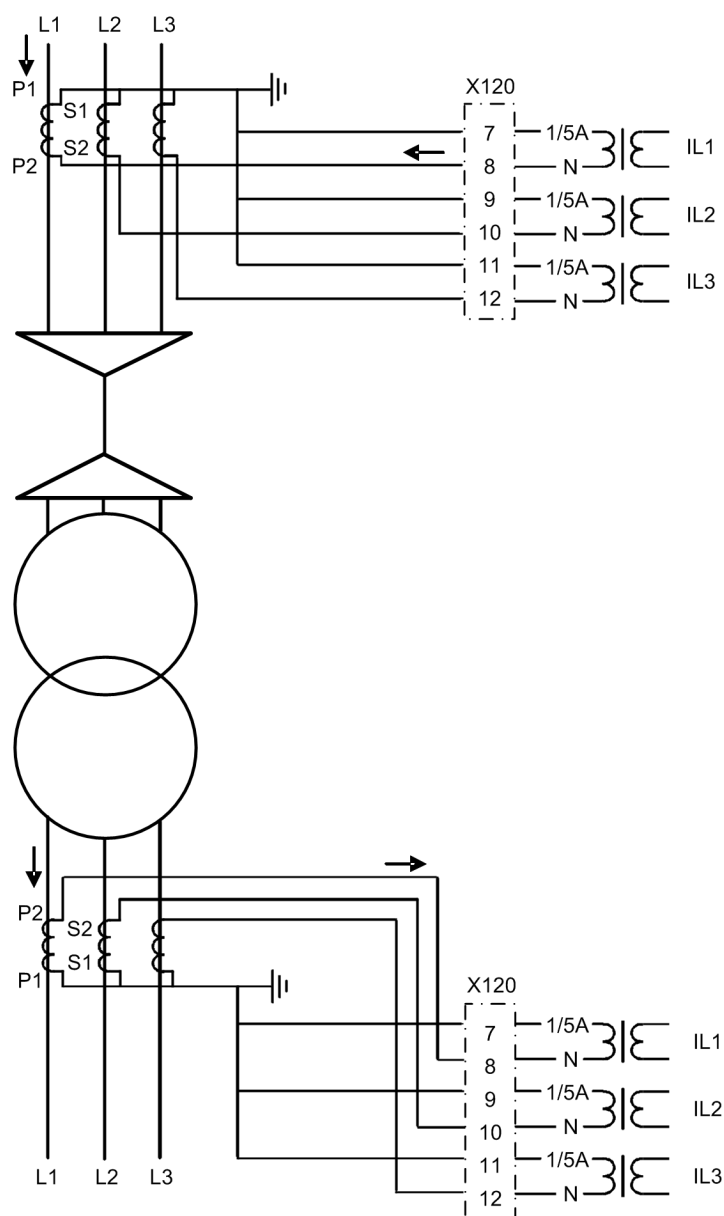
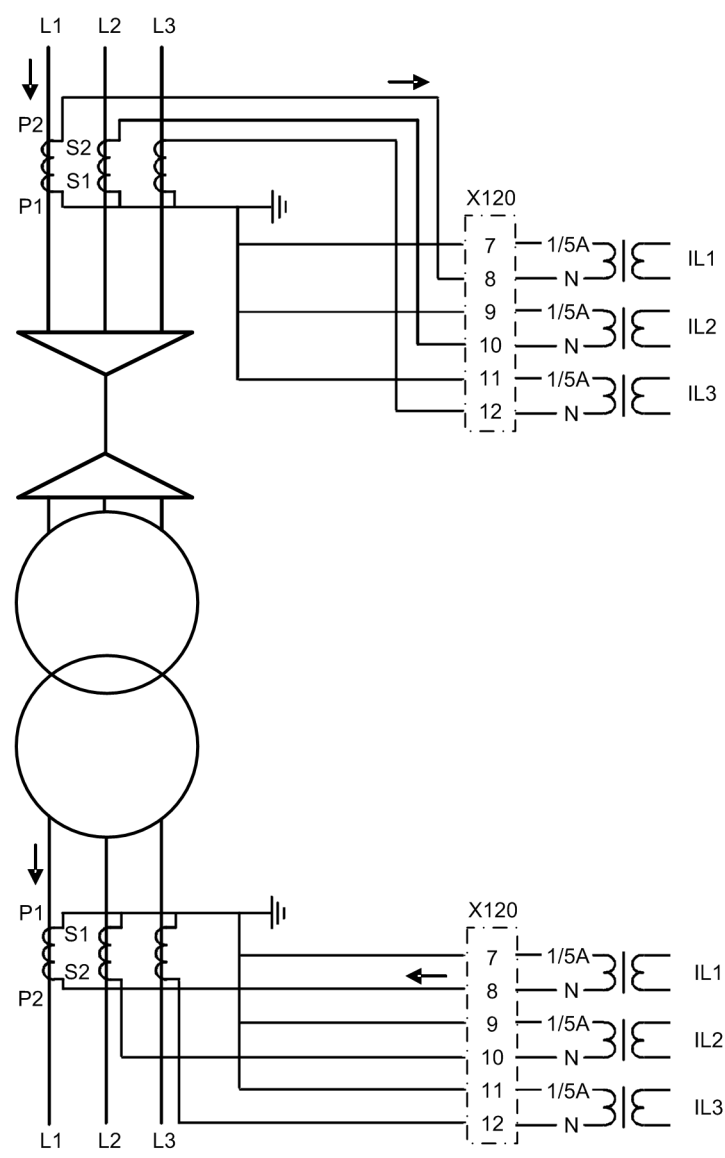

Figure 236: Connection example of current transformers of Type 1
Figure 237: Connection example of current transformers of Type 1
- If the positive directions of the winding 1 and winding 2 protection relay currents are opposite, the *CT connection type* setting parameter is “Type 1”. The connection examples of “Type 1” are as shown in the Figure 236 and Figure 237.